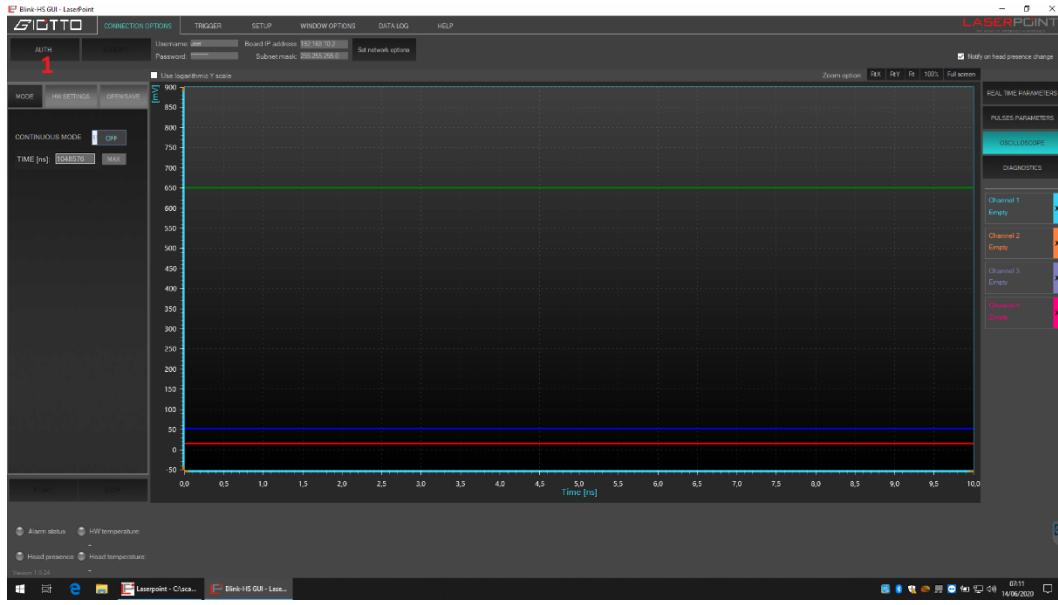

Figure 8
2. Then press “AUTH” button (**1, fig.8**)